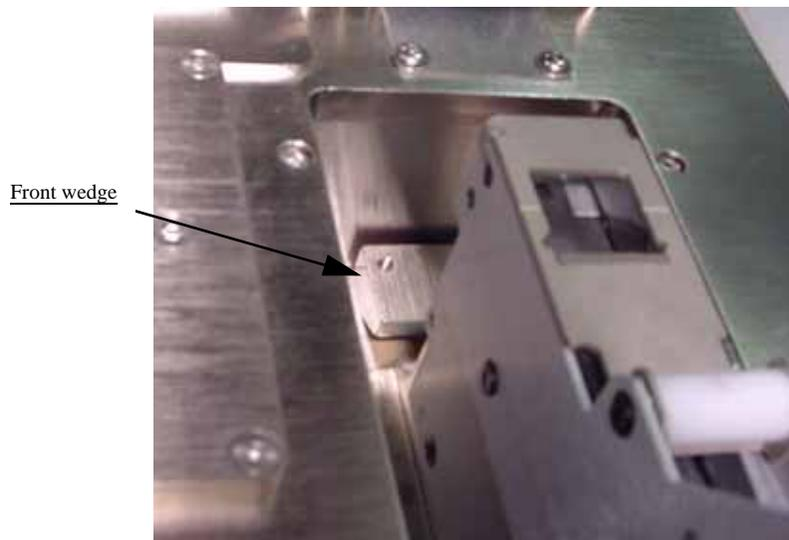

Figure 2-13—Feeder unit sliding under front wedge
- 3d) Make sure the nose of the feeder unit slides under the front wedge on the base plate. See *Figure 2-13*.